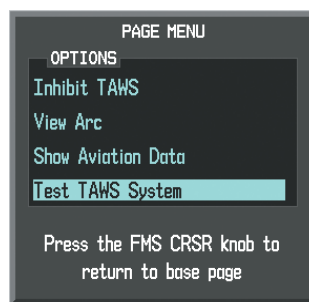

Figure 6-86 TAWS-B Page Menu
- 2) Press the **MENU** Key (Figure 6-86).